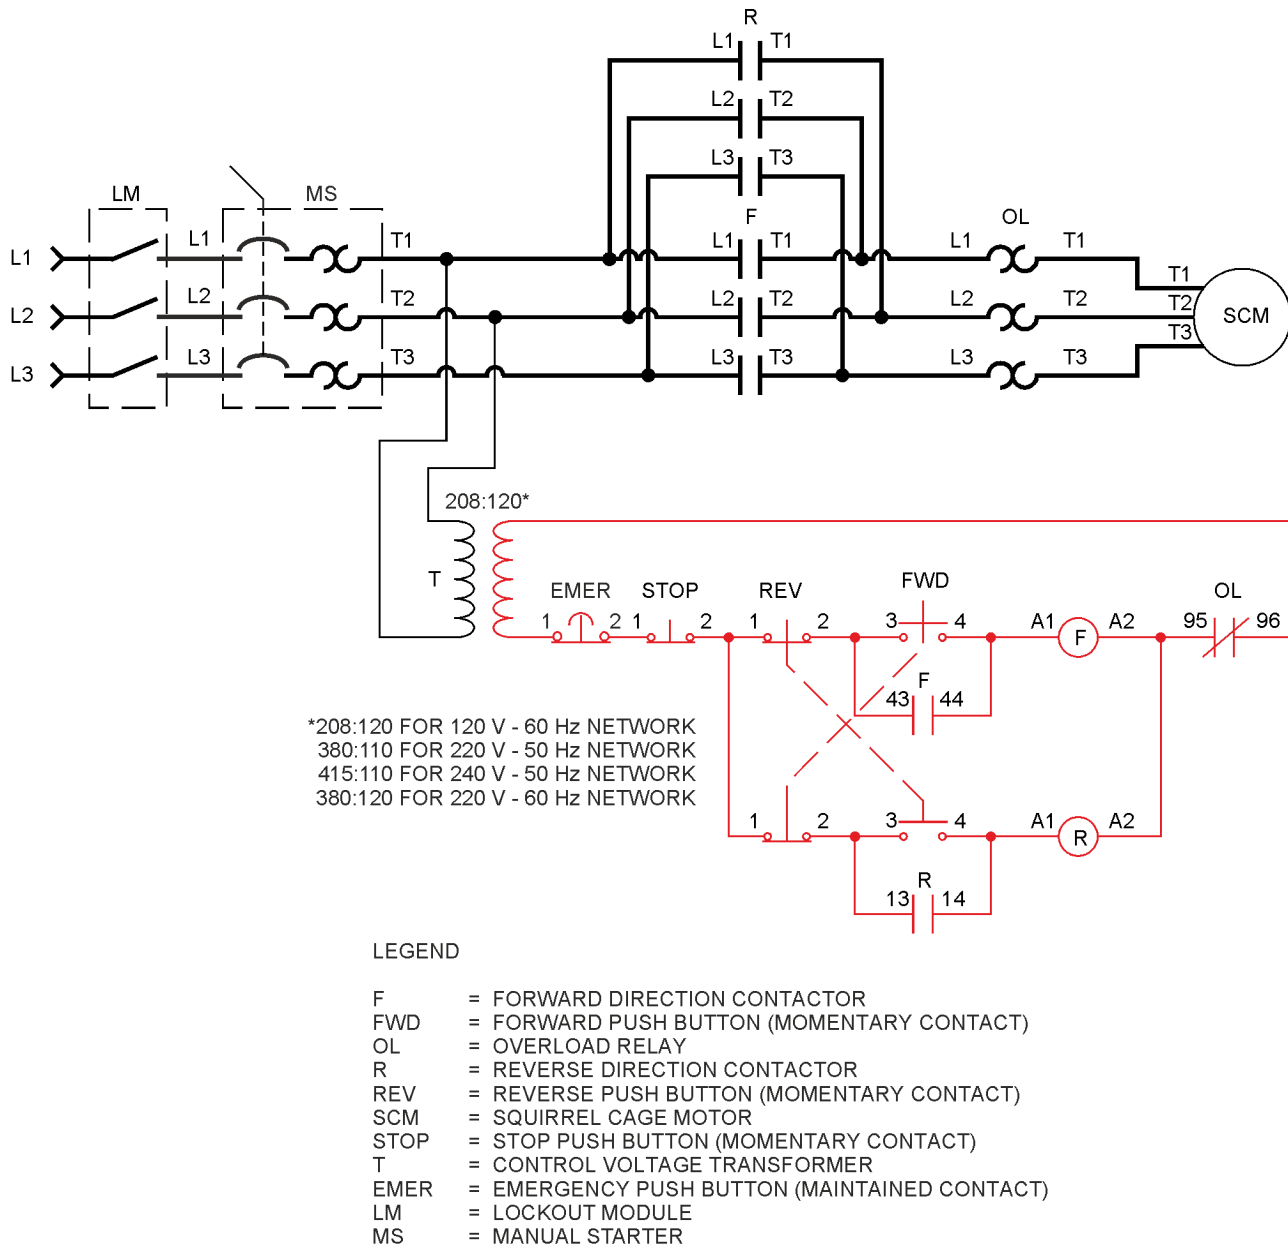

Figure 3-9. Push button interlocking circuit.
When phase reversal is executed in magnetic circuits, one contactor is used for each direction. But a short-circuit can occur if the two contactors are energized at the same time. Look at the Figure 3-9 power circuit, for example. If all contacts of the F and R contactors close, lines 1 and 2 will be short-circuited. That is the reason why forward and reverse contactors are usually electrically and/or mechanically interlocked together.
When the FWD push button in Figure 3-9 is pressed, the coil (F) is energized and the related holding contact closes. If the REV push button is pressed while the motor is running in the forward direction, the forward control circuit de-energizes. At the same time, the reverse contactor (R) is energized and held closed, making the motor run in the reverse direction. Note that it is not necessary to press the STOP push button to reverse direction. This fact facilitates plugging.
Connect the circuit shown in Figure 3-9.
24. Connect the circuit shown in Figure 3-9, this time using the two contactors from the Dual Contactors module.